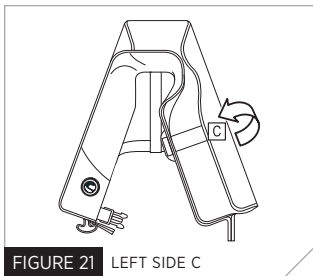
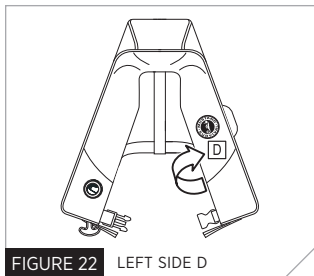

FIGURE 21 LEFT SIDE C
FIGURE 22 LEFT SIDE D
3. Repeat step 2 with side (C) (Fig. 21), cover (D) (Fig.22).